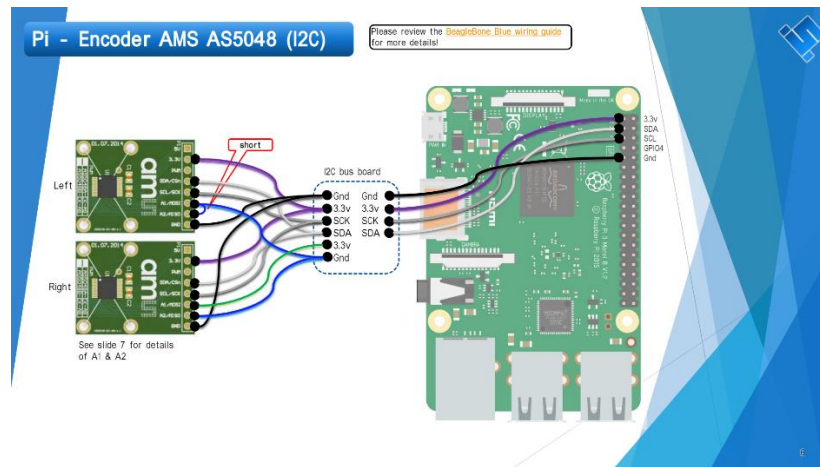

Figure 25
3. Figure 25 shows another view of how the wires should connect from the left and right encoders to the I2C bus, and from the I2C bus to the Raspberry Pi.